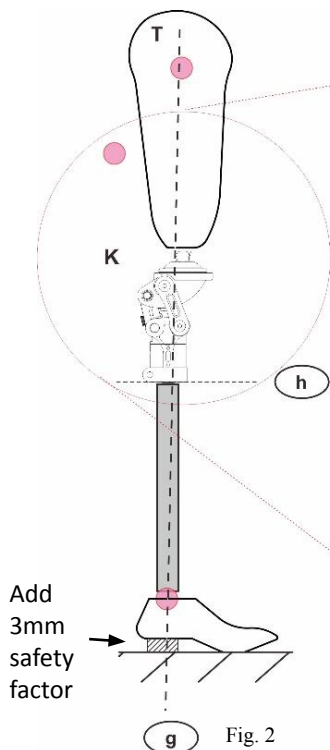
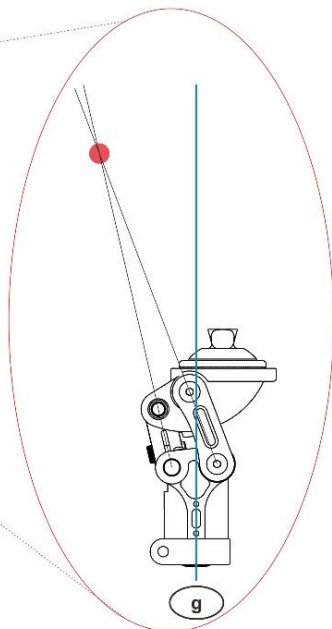

Fig. 2
Fig. 3
Note: 4-bar knees inherently are very stable due to the geometry built into each design. This is commonly referred to as the Instant Knee Center (IKC). The IKC point when doing bench alignment, will fall behind the traditional TKA line that we will reference. (Fig. 2,3) Tg line in Fig. 3 is ideal placement, but in certain instances, it may be necessary to accommodate placement anteriorly (up to 2mm), or posteriorly (up to 2mm). The Tg line is referencing a moving weight bearing line.
a) With prosthesis assembled, taking into account hip flexion contractures, abduction, Line Of Progression, and toe out (Fig.2), the TKA plumb line should pass just anterior to the knee center (the proximal - anterior pivot - Fig.3) and in front of the K point (IKC). Take into account shoe heel height, and add 3mm safety factor.
d) The weight line for Sagittal or A/P plane should have the plumb line passing through T (Tg) line. Ideally, Tg line should pass just anterior to the knee center and be perpendicular to the ground. (Fig. 3)